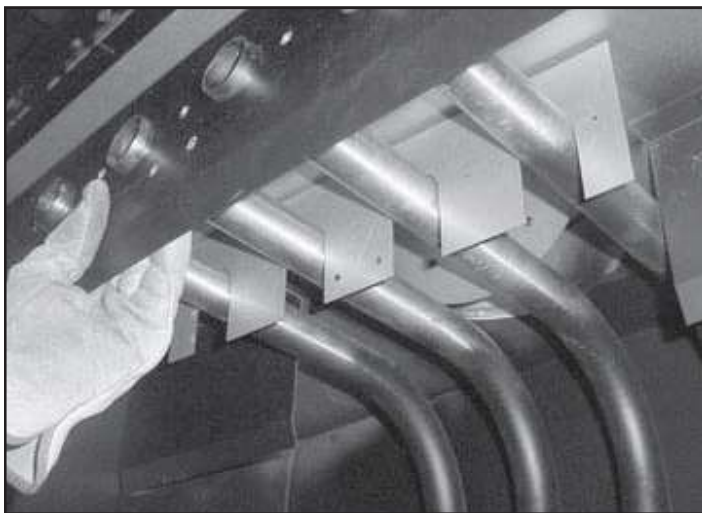

Figure 15 Place Back Seal Plate
- Place back seal plate over tubes and slide forward. See Figure 15.